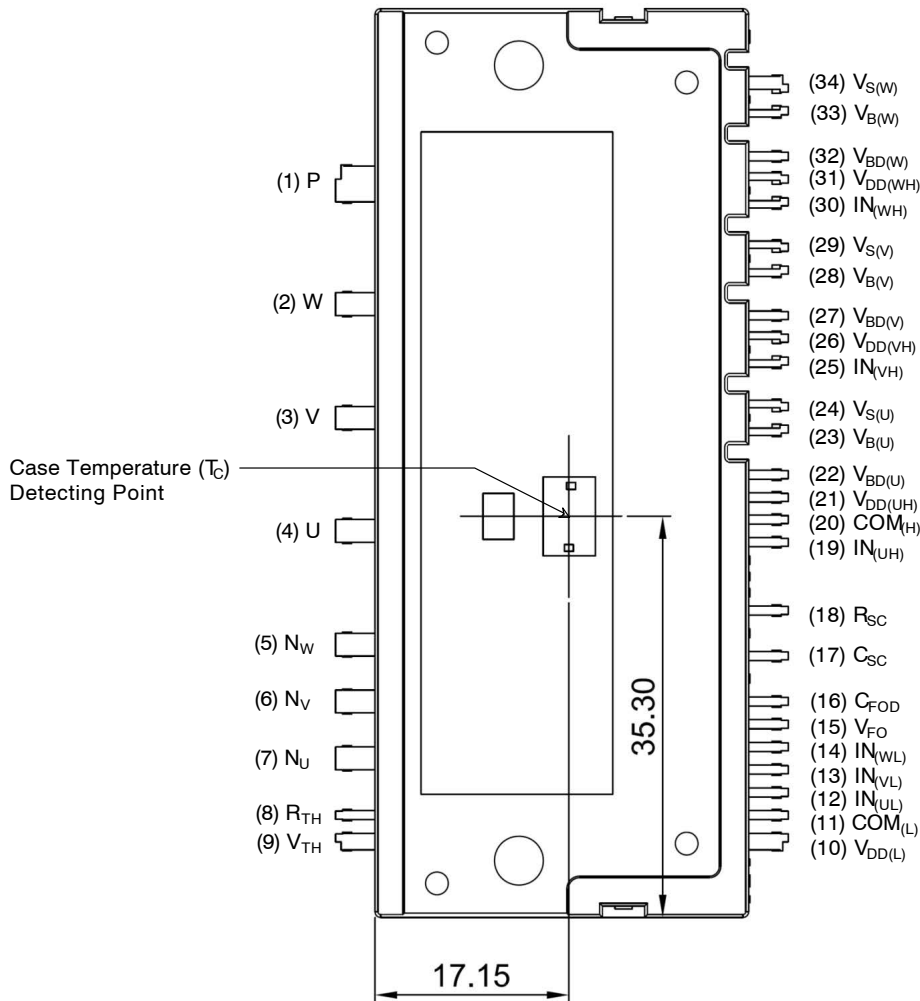

Figure 1. Top View
- 1200 V–35 A IGBT inverter for three–phase DC/AC power conversion (Refer to Figure 1)
- For the measurement point of case temperature (T_C), please refer to Figure 1. DBC discoloration and Picker Circle Printing allowed, please refer to application note AN-9190 (Impact of DBC Oxidation on SPM[®] Module Performance).